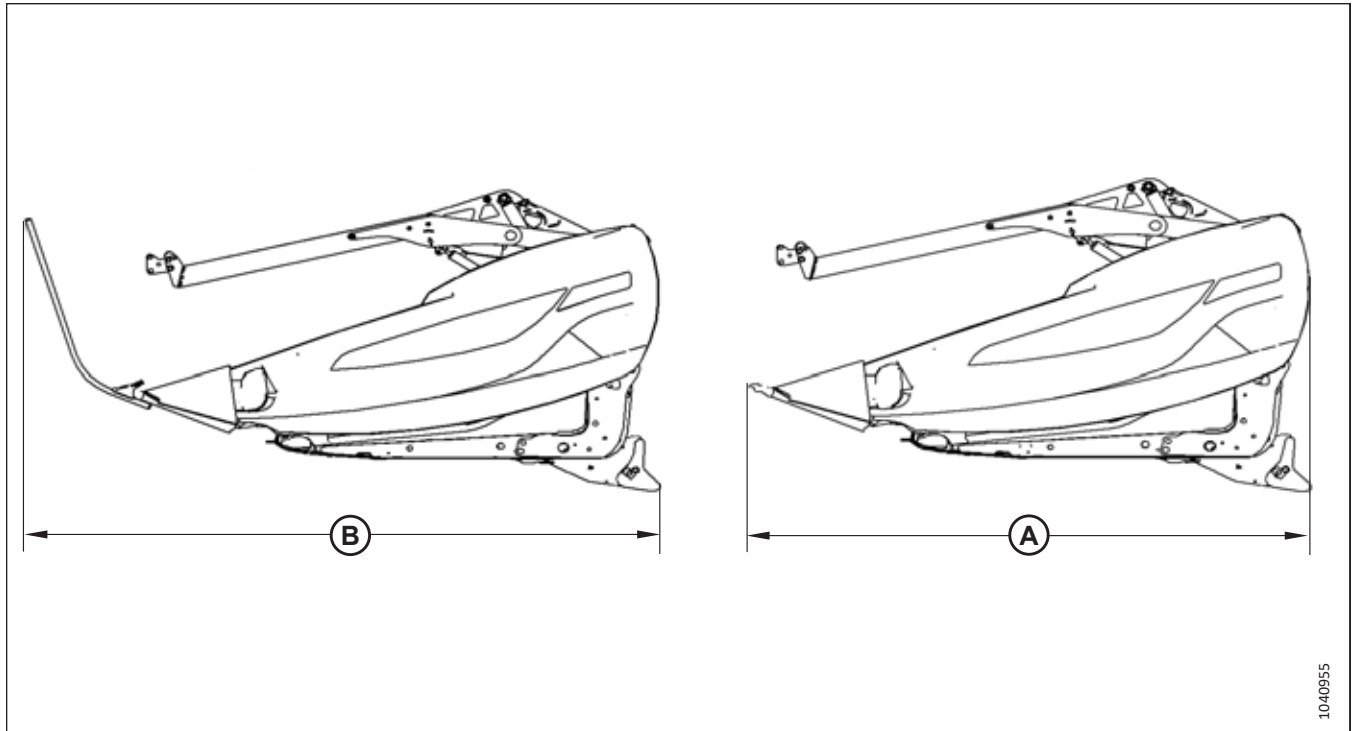

Figure 2.1: Header Width
1. Refer to Figure 2.1, page 37.